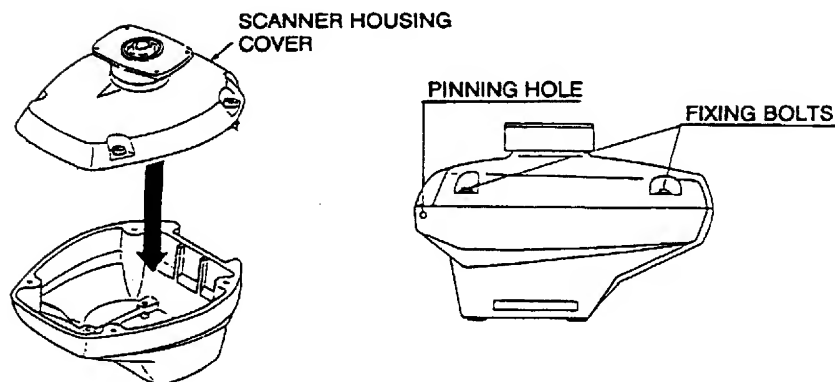

Figure 5-4 Fixing the scanner housing cover
- 2) Coat the two slot pins with grease. Using a wooden mallet (to prevent chipping of paint), insert the pins into the pinning holes (see Figure 5-4) until the pin head is flush with the scanner housing surface.